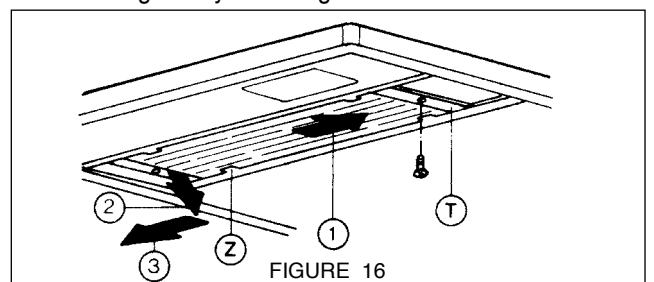

FIGURE 16
To replace the fluorescent light as indicated in FIGURE 16, remove the diffuser clips (T) from both ends of the glass diffuser. Carefully slide the glass diffuser all the way to the right. Lower the left end of the glass below the support flange (Z), then remove the glass by sliding it back to the left. Replace the diffuser glass by reversing these directions.